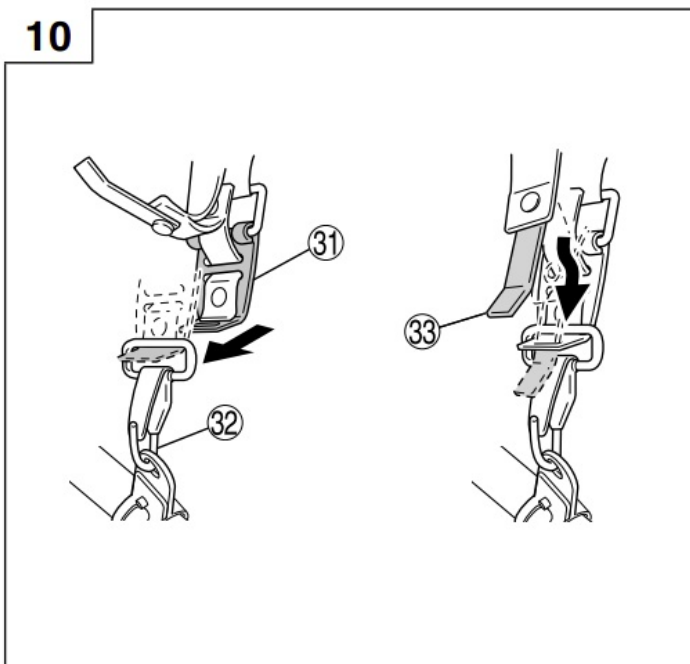

Fig. 10
3. To strap on the tool, insert the bracket in the hook and insert the quick-release bracket over the hook and into the wide opening of the bracket. (**Fig. 10**)